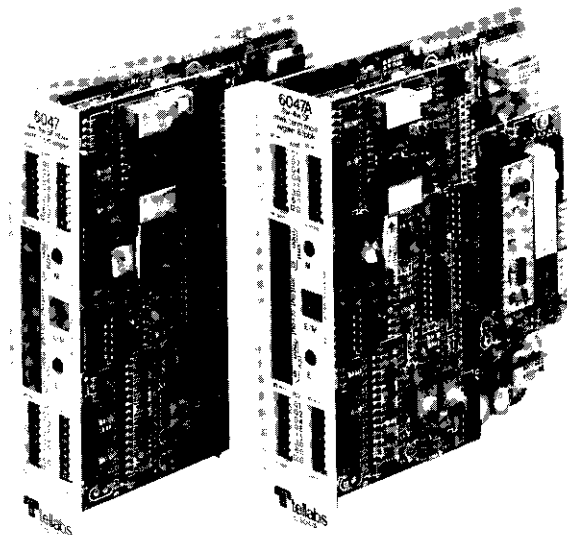

figure 1. 6047 and 6047A 4Wire-to-4Wire
1.01 The 6047 4Wire-to-4Wire SF-to-E&M Network Terminating Module with Gain and the 6047A 4Wire-to-4Wire SF-to-E&M Network Terminating Module with Gain and Loopback (figure 1) each provide signaling and transmission interface between a 4wire facility that uses single-frequency (SF) signaling and a 4wire trunk (typically, a PBX trunk) or a 4wire line that uses E&M signaling. Both modules provide active level control in the transmit and receive paths, receive-path amplitude equalization, and full-duplex conversion between the SF signaling on the facility and the E&M signaling on the trunk or line. Conventional 2600Hz SF tone is supplied by an integral oscillator. The 6047 and 6047A differ from ordinary 4wire E&M SF signaling sets in that they contain integral amplifiers to accommodate a variety of facility interface levels. Unlike the 6047, the 6047A contains integral loopback circuitry that facilitates local or remote testing of both the module and the facility. As members of Tellabs' 262U Universal Network Terminating System of modules and enclosures, the 6047 and 6047A each fulfill Registered Facility Interface Codes TC31E, TC31M, TC32E, TC32M, TL31E, TL31M, TL32E, and TL32M for network-terminating applications where the serving telephone company uses SF signaling.